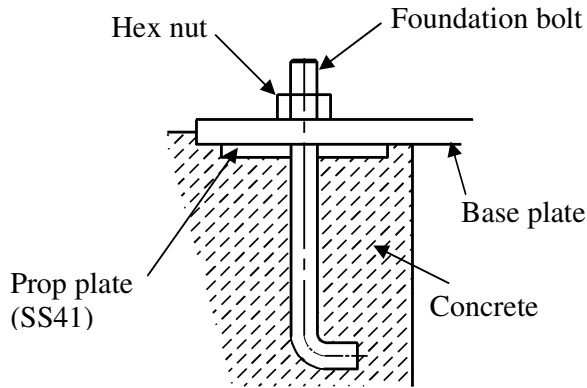
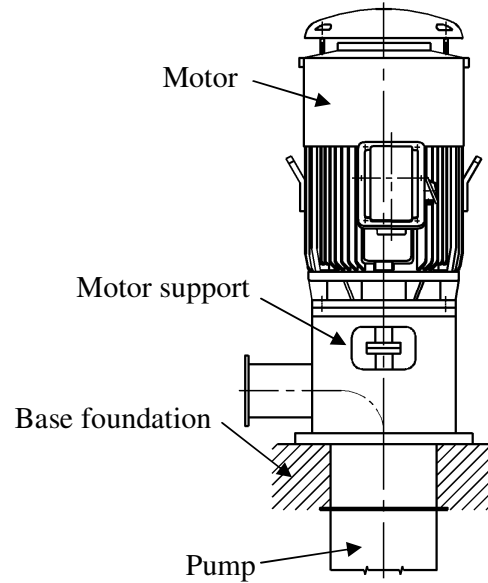

Fig. 7
Fig. 8
- A massive concrete foundation is preferred in order to minimize vibration. Rigidity and stability are enhanced by prop plate and foundation bolt. As shown in Fig.7 and Fig.8.